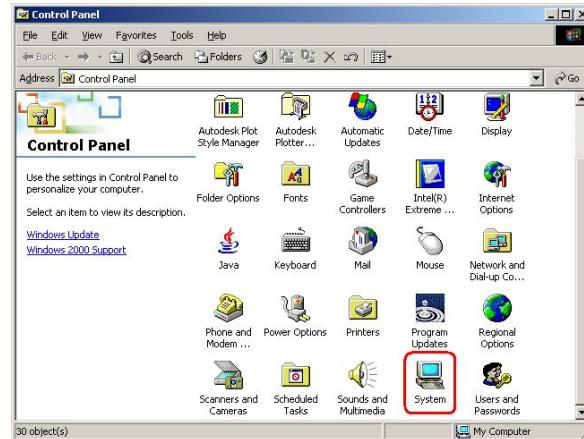

Figure 7-16: Double Click the System Icon
Step 31: Double click the **System** icon (Figure 7-16).